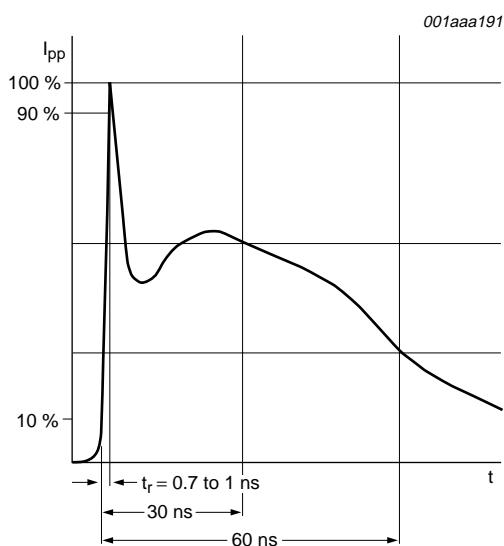

Fig.3 Electrostatic Discharge (ESD) pulse
1. Device stressed with ten non-repetitive Electrostatic Discharge (ESD) pulses; see Fig.3.